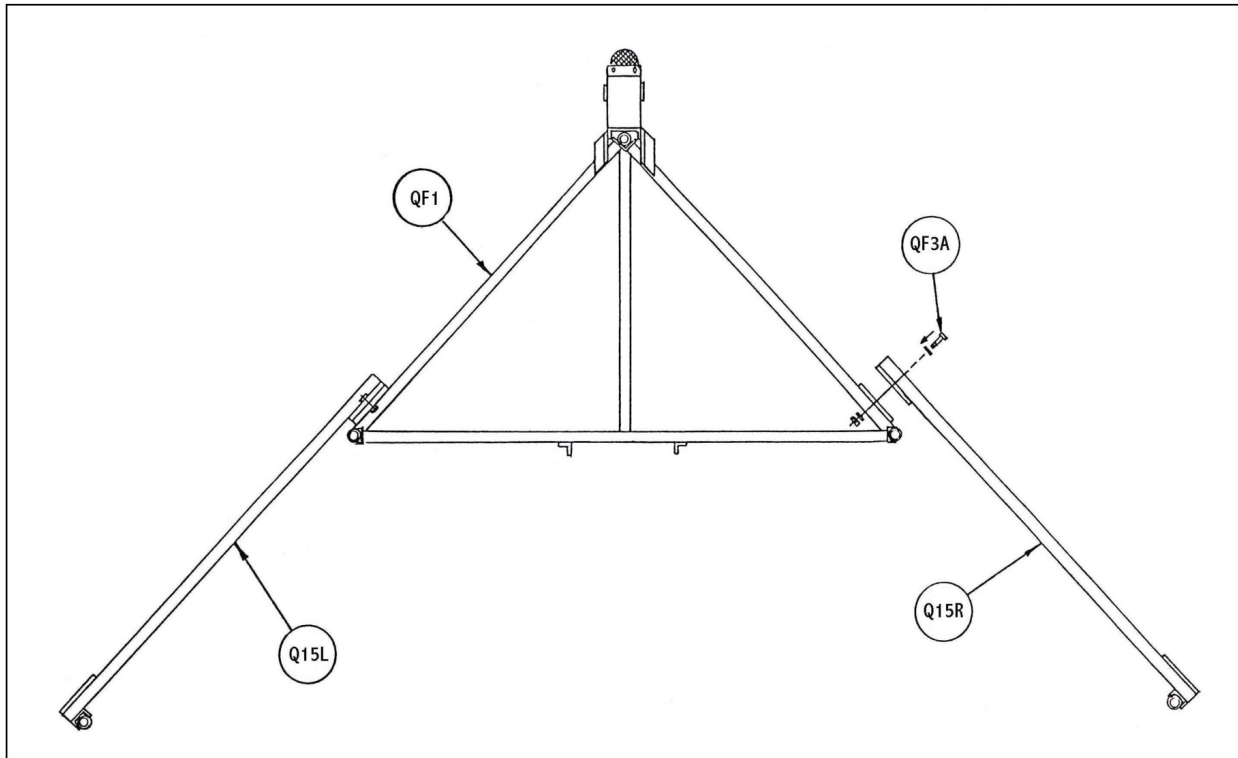

Figure 5: Schematic of Triangular Frame with Extension Arms, Top View
3. Align the hole on the front plate of the extension arm with the hole in the frame (see Figure 5). NOTE: THE MOUNTING PLATE ON THE ARM EXTENDS UPWARD.